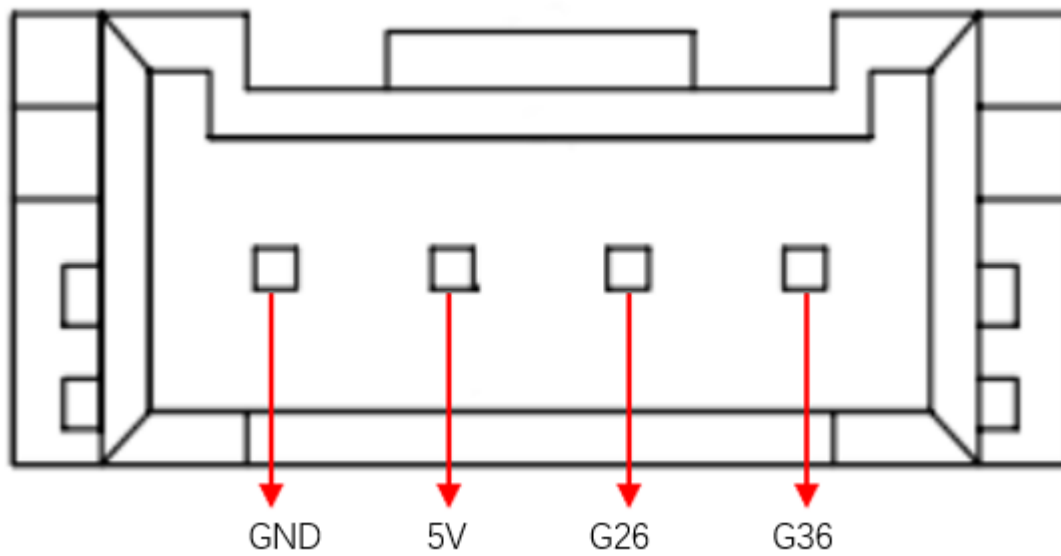
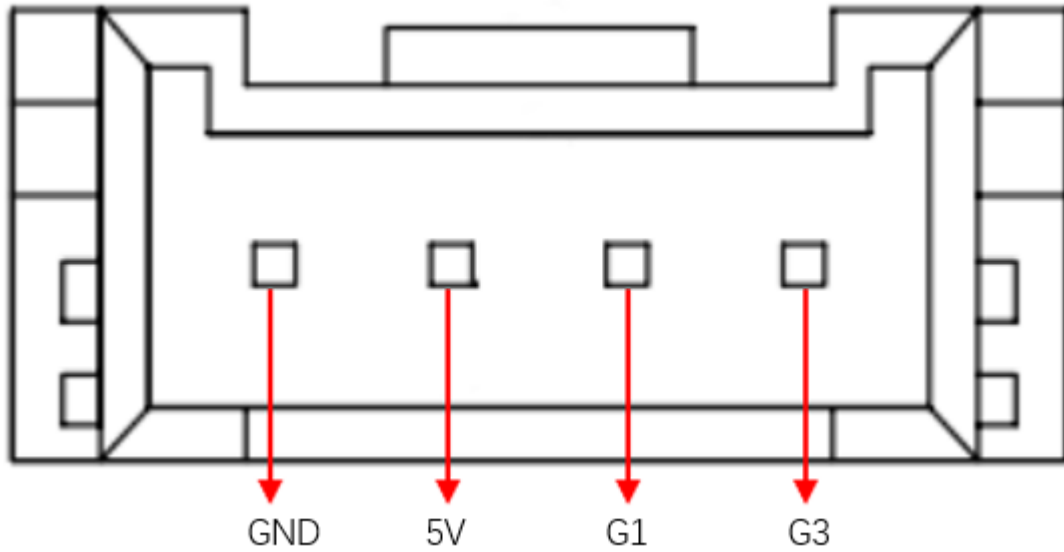
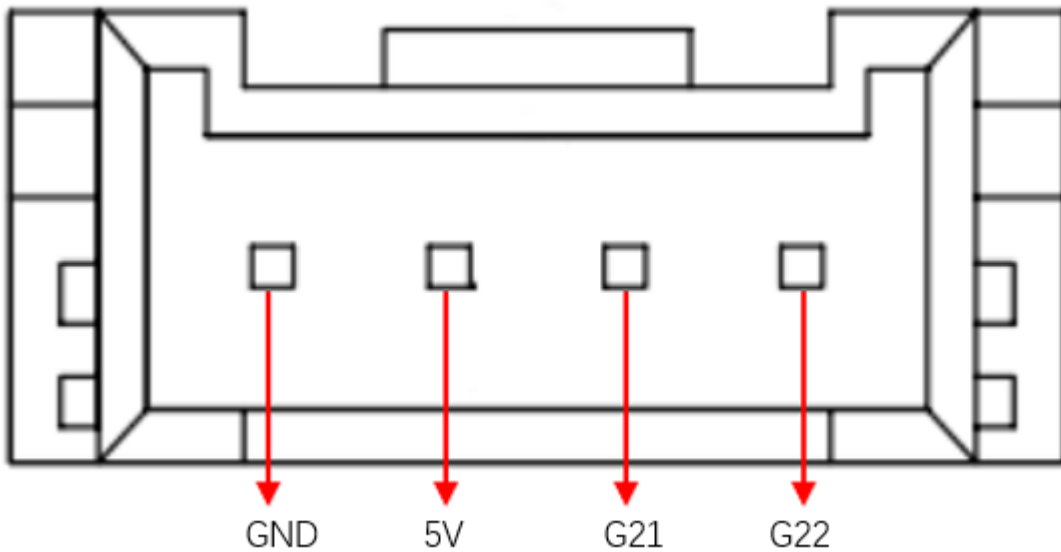

图1-5 Grove port 1
图1-6 Grove pin port 2
图1-7 Grove port 3
Description: Figure 1-5 shows other functions of the interface. If other functions are used, the I/O function is unavailable.
D. Grove interface: Figure 1-5, Figure 1-6, and Figure 1-7 show the Grove interface definitions